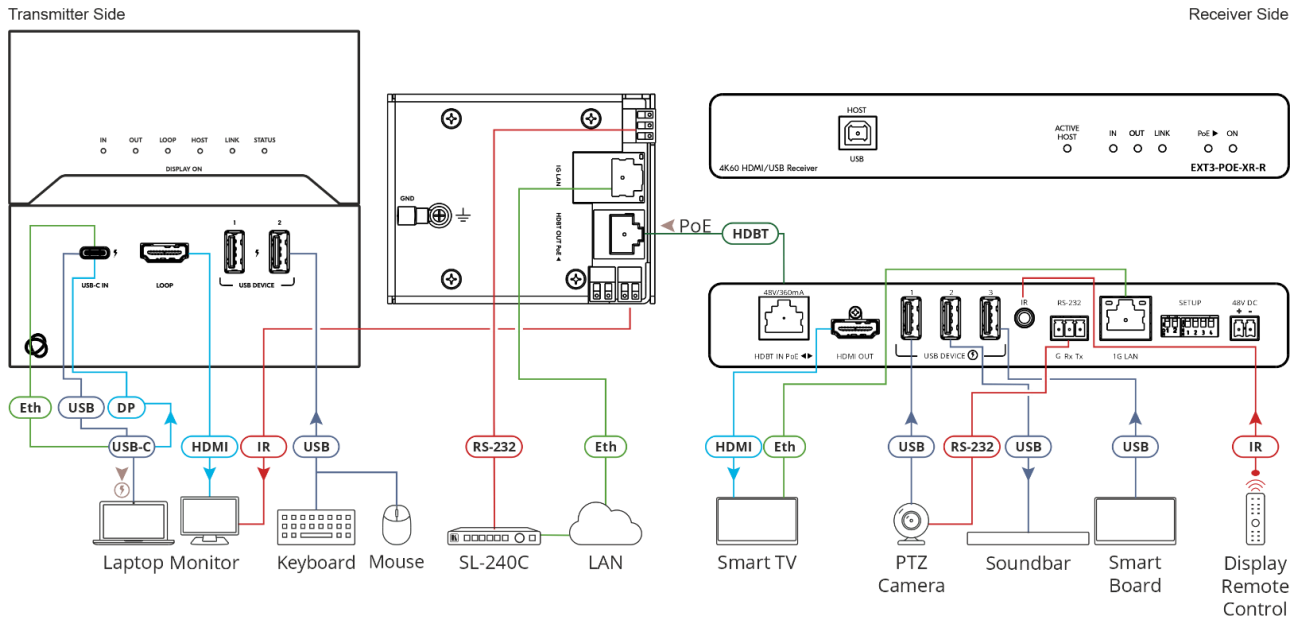

Figure 6: Connecting EXT3-C-WP-XR-T to EXT3-POE-XR-R
In the example in Figure 6, the connected USB devices, such as the mic or soundbar, are hosted via the transmitter's USB-C port (1). In this configuration, the receiver's host USB-B port is inactive.
To connect **EXT3-C-WP-XR-T** to **EXT3-POE-XR-R** as illustrated in the example in Figure 6:
10. Connect the power adapter to **EXT3-C-WP-XR-T** and to the mains electricity (not shown in Figure 6).
11. Connect the power adapter to **EXT3-POE-XR-R** and to the mains electricity (not shown in Figure 6).
To connect **EXT3-C-WP-XR-T (EU/UK)** to **EXT3-POE-XR-R** as illustrated in the example in Figure 6: